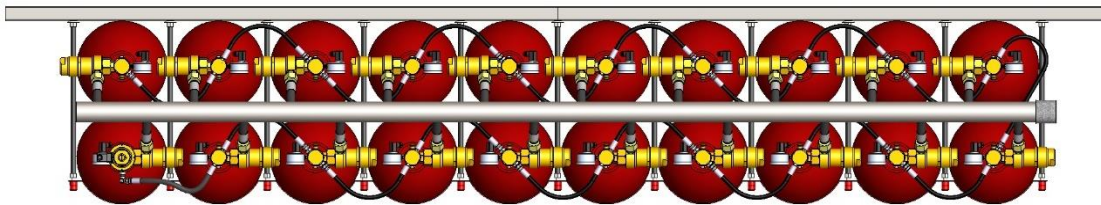

Figure 5.5.1a – Discharge manifold DN50
- Fix the manifold in place with the horizontal and vertical rails. Referring to Figures 5.5.1a, 5.5.1b, 5.5.2, 5.5.3 and 5.5.4 for different manifold connection arrangements. Refer to Figure 5.1b for dimensions.